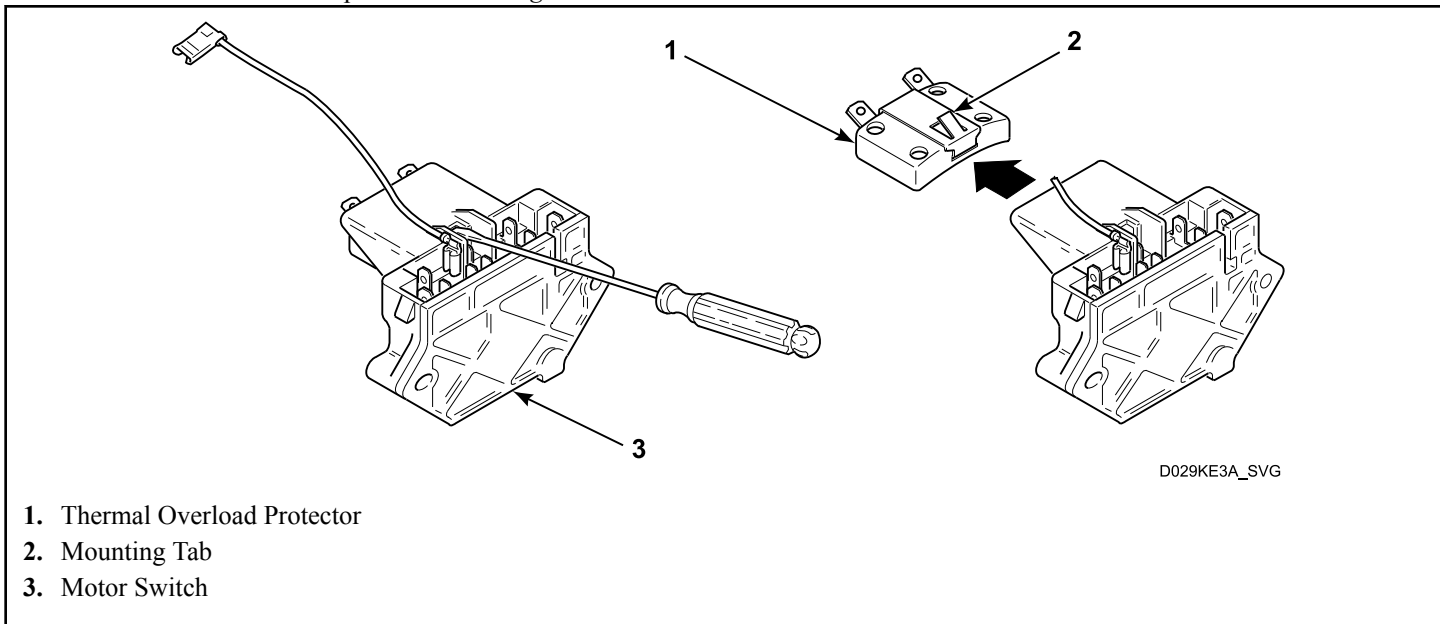

Figure 13
2. Remove the two motor switch attaching screws. Refer to *Figure 13*. Disconnect switch leads. Remove motor switch.
- a. **Motor with Switch on Blower End.** Using a small bladed screwdriver, press the thermal overload protector mounting tab downward and remove the thermal overload protector from the inoperative motor switch. Refer to *Figure 13*.
5. Install new motor switch onto motor and reconnect motor switch leads removed in Step "2". Refer to *Figure 13*.